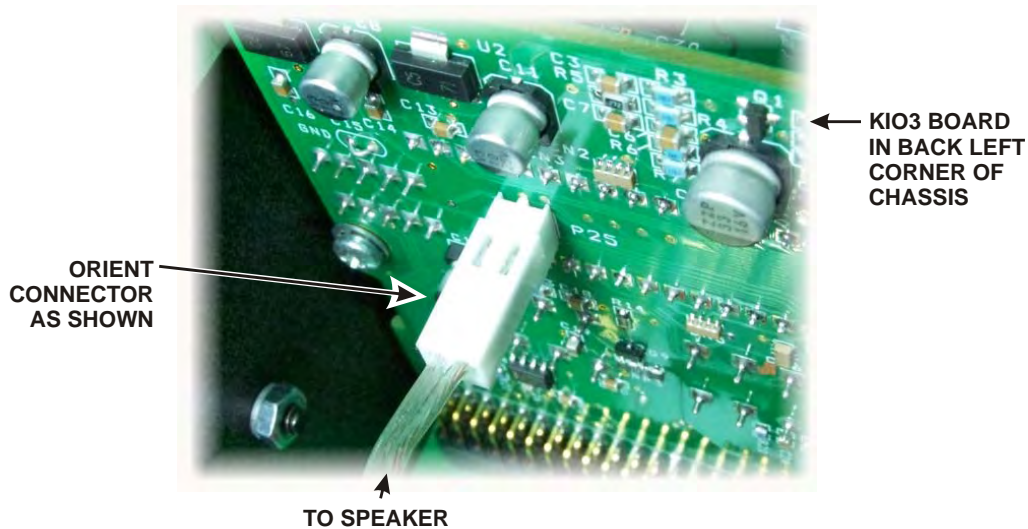

Figure 79. Connecting Speaker to KIO3 Board.
- Connect the speaker cable to P25 of the KIO3 board as shown in Figure 79. If you have the KPA3 shield installed, route the speaker wire under the stiffener bar.